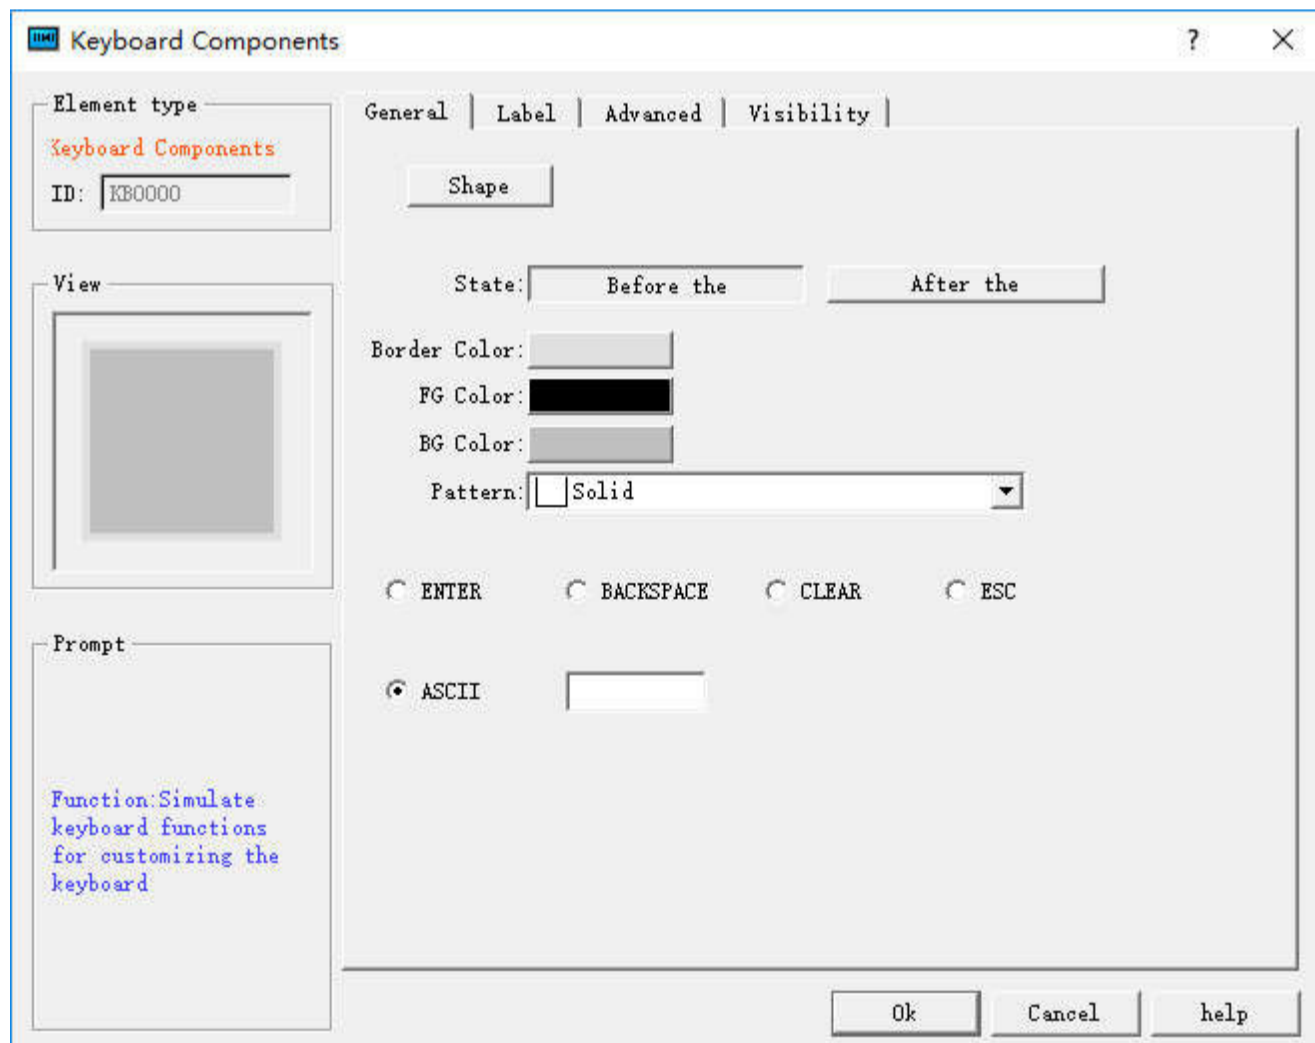

Figure 4-119 Keyboard General Page dialog box
1. Keyboard: This control is employed to customize the keyboard, composed of each button on the keyboard. The icon of the control on the toolbar is: ; Click on the button, then a dialog box shown in Figure 4-119 will pop up.